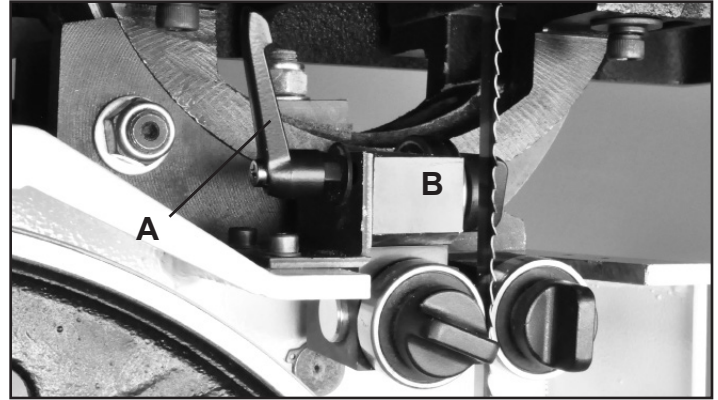

FIGURE 26 NOTE: Blade Guard removed for photo purposes
2. The guides should be approximately  $1/16$ " behind the gullets of the saw blade. If they need to be moved, loosen the Lever Handle (#60A, Fig. 26, A), located to the left of the Lower Guide Block (#43A, B), and move this block that holds the guides so that the guides are properly positioned behind the blade gullets. Re-tighten the lever handle when done.